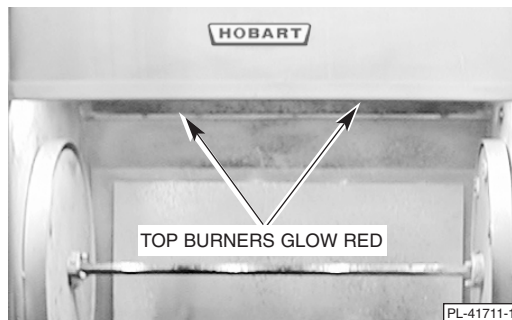

Fig. 28
- Check the burners in the top of the cavity to ensure the burners are lit and beginning to glow red (Fig. 28).